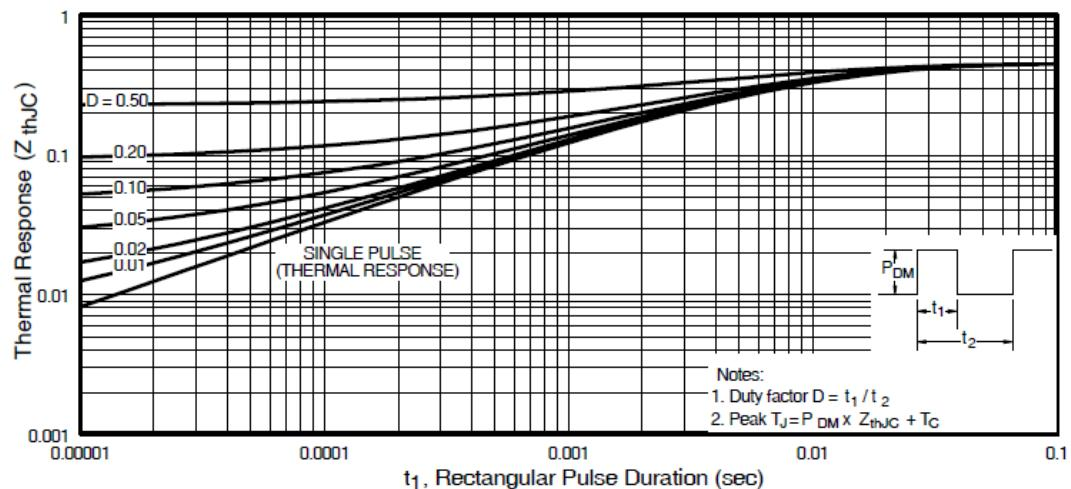

Fig 11. Maximum Effective Transient Thermal Impedance, Junction-to-Case
- ① Repetitive rating; pulse width limited by max. junction temperature. (See fig. 11).
- ② Starting $T_J = 25^\circ\text{C}$, $L = 0.11\text{mH}$
- $Z_{thJC}(D, t_{av})$ = Transient thermal resistance, see figure 11)